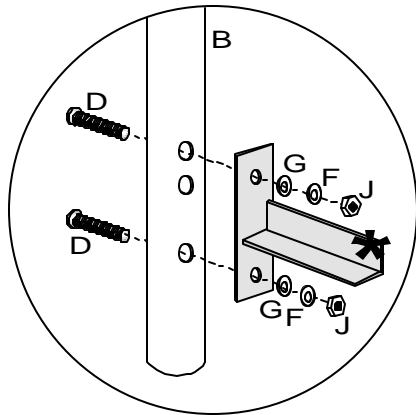

Figure 2
Attach Bed Frame (\*Not Included) to each Leg Extension (B), using 2 Long Allen Bolts (D) from the back side, 2 Metal Washers (G), 2 Spring Washers (F) & 2 Hex Nuts (J) per each post. Tighten all bolts only using Allen Wrench (K) provided. See Figure 2. Assembly is now complete.